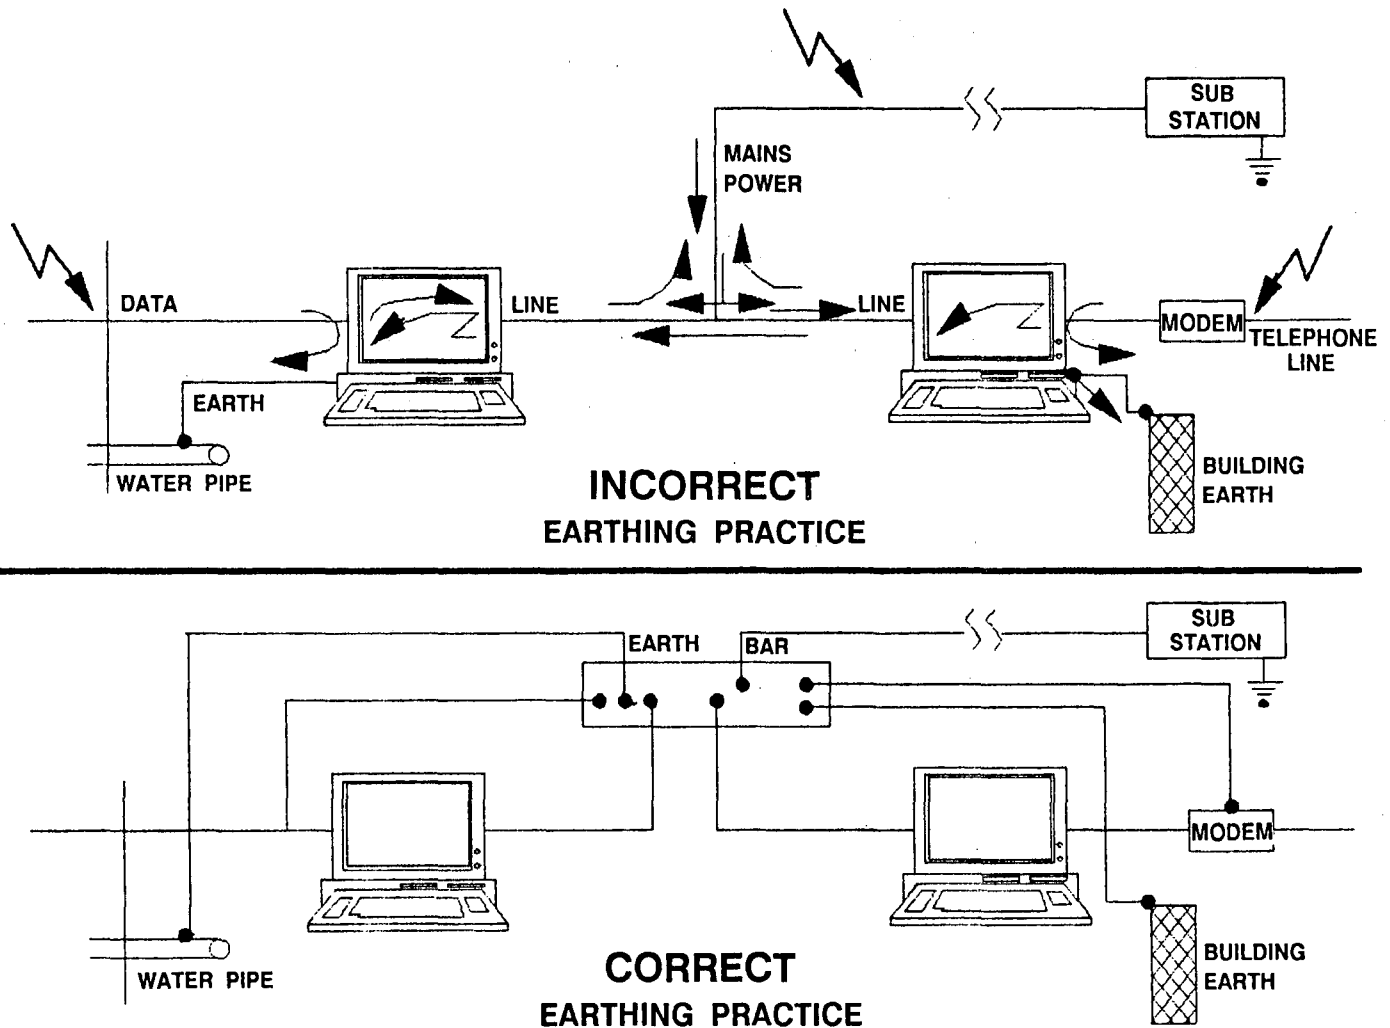

FIGURE 1 Examples of correct and incorrect earthing practices.
- All incoming cable shields should be connected to a common earth bar. Ideally this common earth should have a good ground connection, i.e. having low resistance and reactance characteristics. As it may not always be possible to do this, tying all equipment earths together will ensure that the same voltage potential exists at each piece of equipment and will prevent breakthrough from power earth to data ground (see Figure 1).